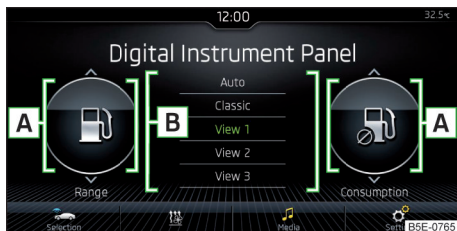

Fig. 37
- ▶ In the areas **A** » Fig. 37, the desired additional information can be selected by moving your finger vertically across the display.